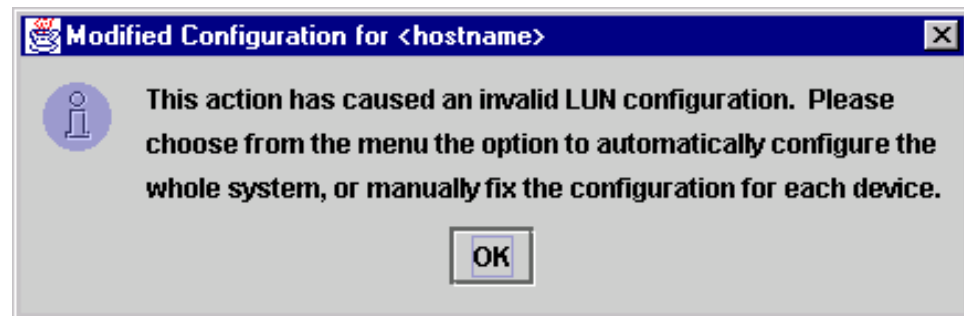

Figure 96. Modified Configuration Error dialog window
- Click **Set Unconfigured** to set this path as not visible to the operating system. The path is not used in failover conditions. If setting the path has caused the LUNs associated with this device to have an invalid configuration, the error message shown in Figure 96 is displayed. This problem is usually the result of changing the configuration state of a device. You must modify the LUN configuration for this device before you can save or apply the configuration.